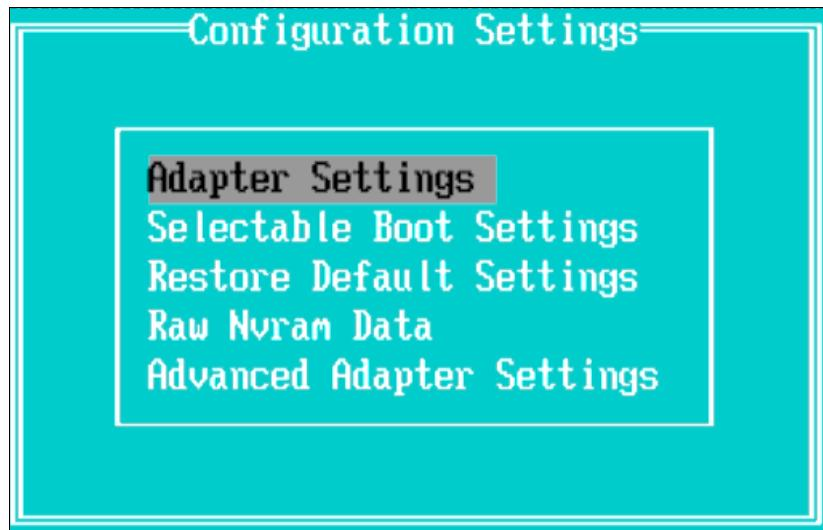

Figure 18-6 Configuration Settings panel
5. Select **Adapter Settings** and press Enter (Figure 18-6).